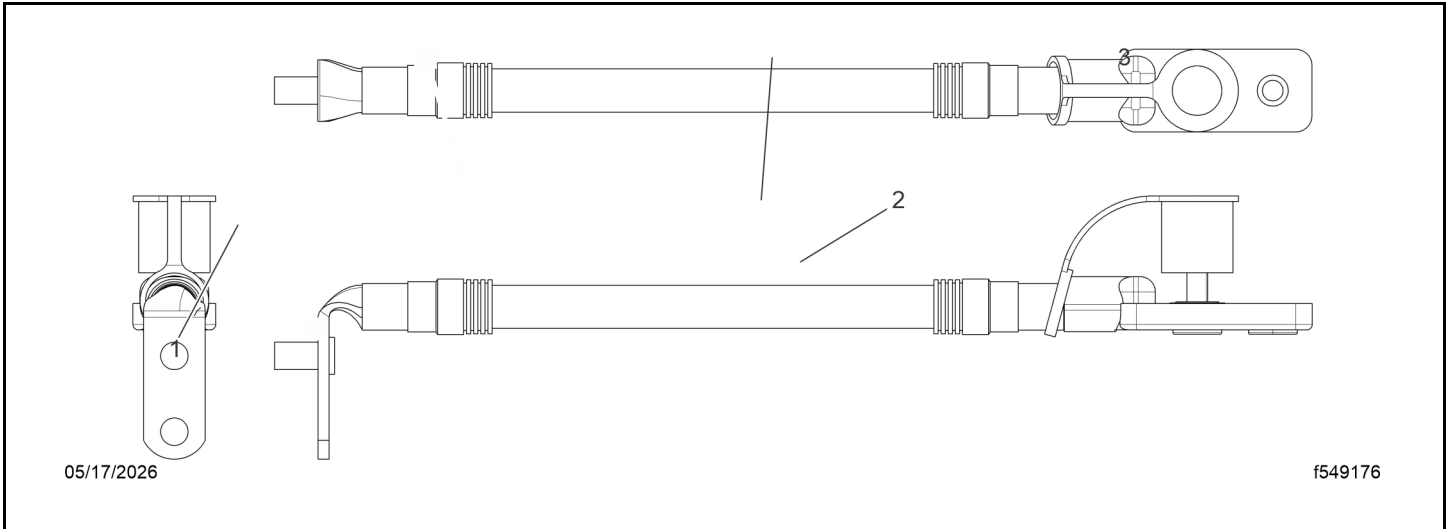

Fig 77, Jump-Start Cable Orientation
- g. Position the new terminal according to the orientation drawing. See Fig. Fig. 77.